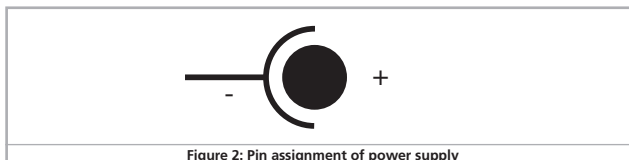

Figure 2: Pin assignment of power supply
- Use the supplied power adapter. Its output must be connected to the power supply socket of the locomotive programmer. The pin assignment shows Fig. 2.